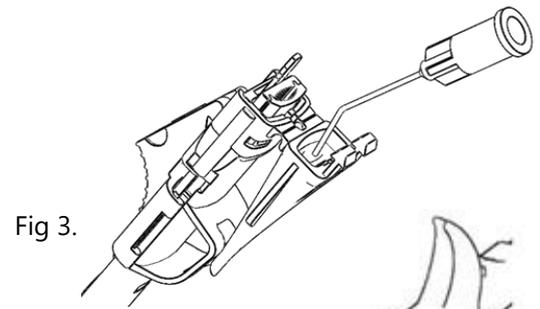

Fig 3.
- Inject viscoelastic material into the cartridge nozzle from the back side, as shown in Fig. 3